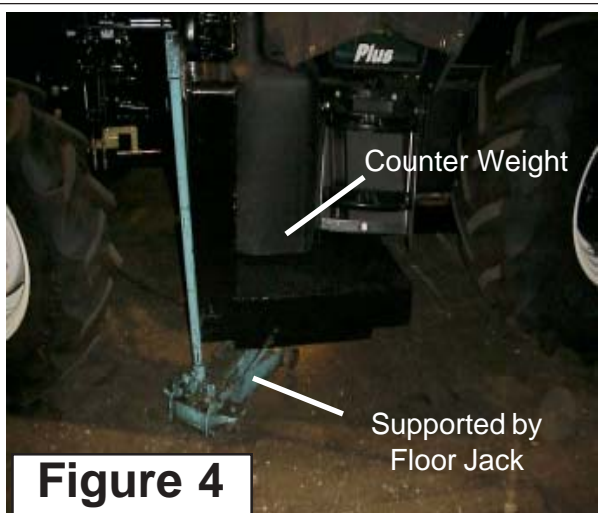

Figure 4
2. Level Counter Weight (CWT). Use a Floor Jack to support and level counter Weight after Hinge Bolts have been installed (**See Figure 4**). Use a Framing Square to align the CWT with the High frame (**See Figure 5**).